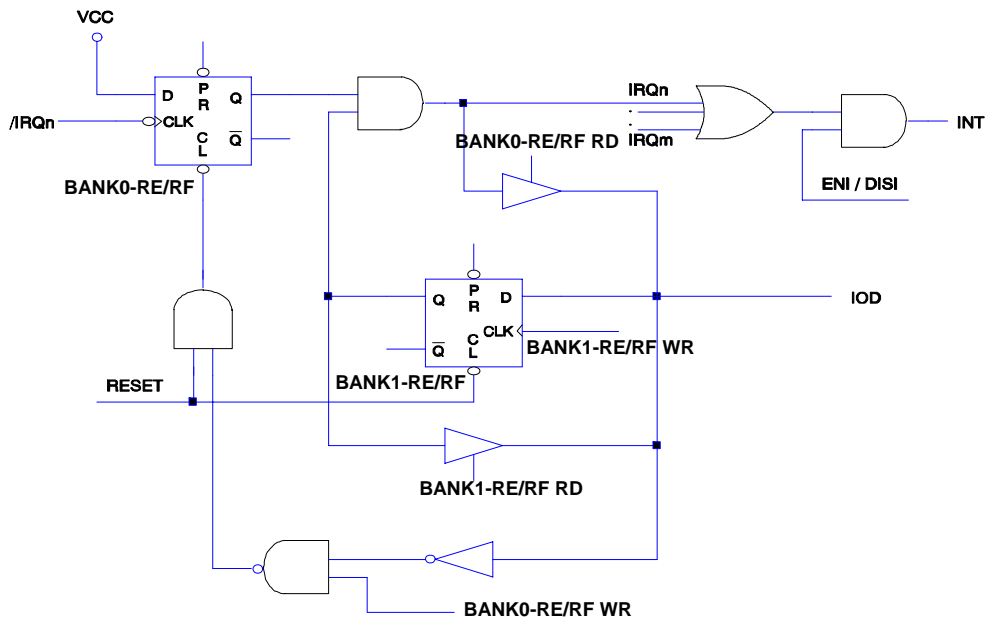

Figure 6-8 Interrupt Input Circuit
When interrupt mask bits are "Enabled", the flag in the Interrupt Status Register (RF) is set regardless of the ENI execution. Note that the result of Bank 0-RE/RF will be the logic AND of BANK 0-RE/RF and Bank 1-RE/RF (refer to Figure 6-8). The RETI instruction ends the interrupt routine and enables the global interrupt (the ENI execution).